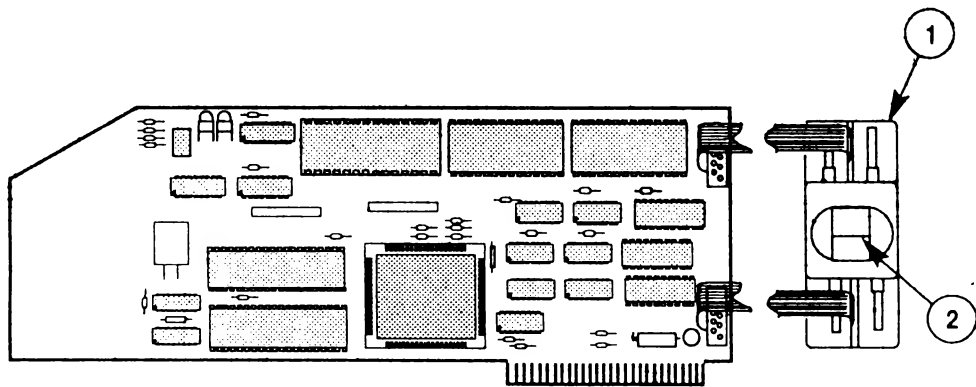

FIGURE 9
- IPL.11 Apple II Workstation Card (Figure 9)
□ APPLE II WORKSTATION CARD (Figure 9)